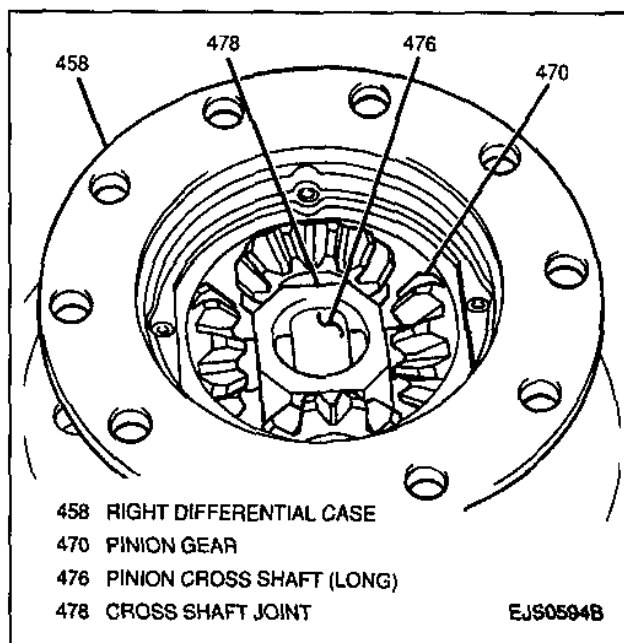

Figure 59—Cross Shaft Roll Pin Installation
- 4. Cross shaft roll pins into right differential case half. Roll pin ends should be flush with the right differential case surface (Figure 59).